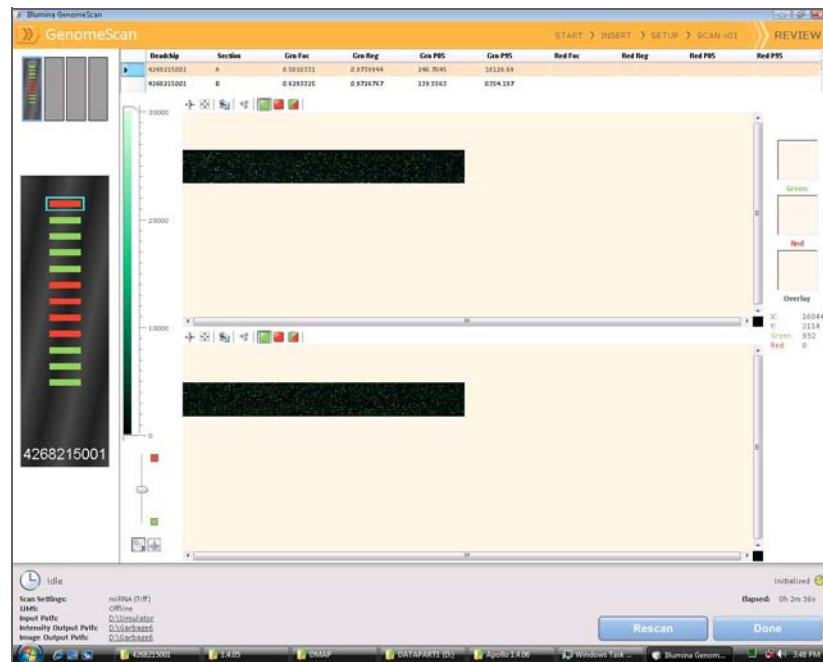

Figure 187 Review Window with Failed Stripes
5. At the end of the scan, a Review window appears (Figure 187). The Scan Metrics table at the top shows the intensity values, registration, and focus metrics for each stripe on the BeadChip.